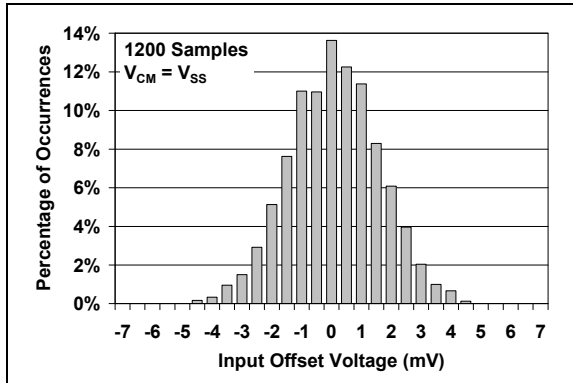

**FIGURE 1-3:** AC and DC Test Circuit for the Push-Pull Output Comparators.
**Electrical Specifications:** Unless otherwise indicated,  $V_{DD} = +1.6V$  to  $+5.5V$ ,  $V_{SS} = \text{GND}$ ,  $T_A = +25^{\circ}\text{C}$ ,  $V_{IN+} = V_{DD}/2$ ,  $V_{IN-} = V_{SS}$ , and  $R_L = 100 \text{ k}\Omega$  to  $V_{DD}/2$  (Refer to Figure 1-3).
**Electrical Specifications:** Unless otherwise indicated,  $V_{DD} = +1.6V$  to  $+5.5V$ ,  $V_{SS} = GND$ ,  $T_A = +25^\circ C$ ,  $V_{IN+} = V_{DD}/2$ ,  $V_{IN-} = V_{SS}$ , and  $R_L = 100\text{ k}\Omega$  to  $V_{DD}/2$  (Refer to Figure 1-3).
**Electrical Specifications:** Unless otherwise indicated,  $V_{DD} = +1.6V$  to  $+5.5V$ ,  $V_{SS} = GND$ ,  $T_A = +25^\circ C$ ,  $V_{IN+} = V_{DD}/2$ , Step = 200 mV, Overdrive = 100 mV, and  $C_L = 36\text{ pF}$  (Refer to Figure 1-2 and Figure 1-3).